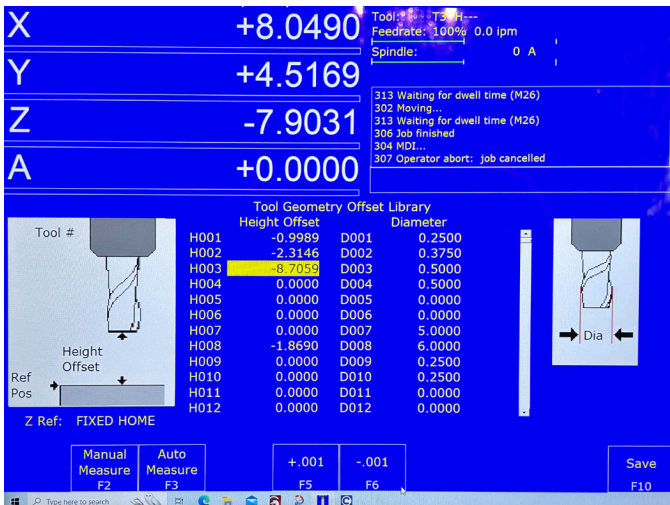

FIGURE 6
- Now go back to the “Offset Lib.” page and it will look like the picture below (see Figure 6).